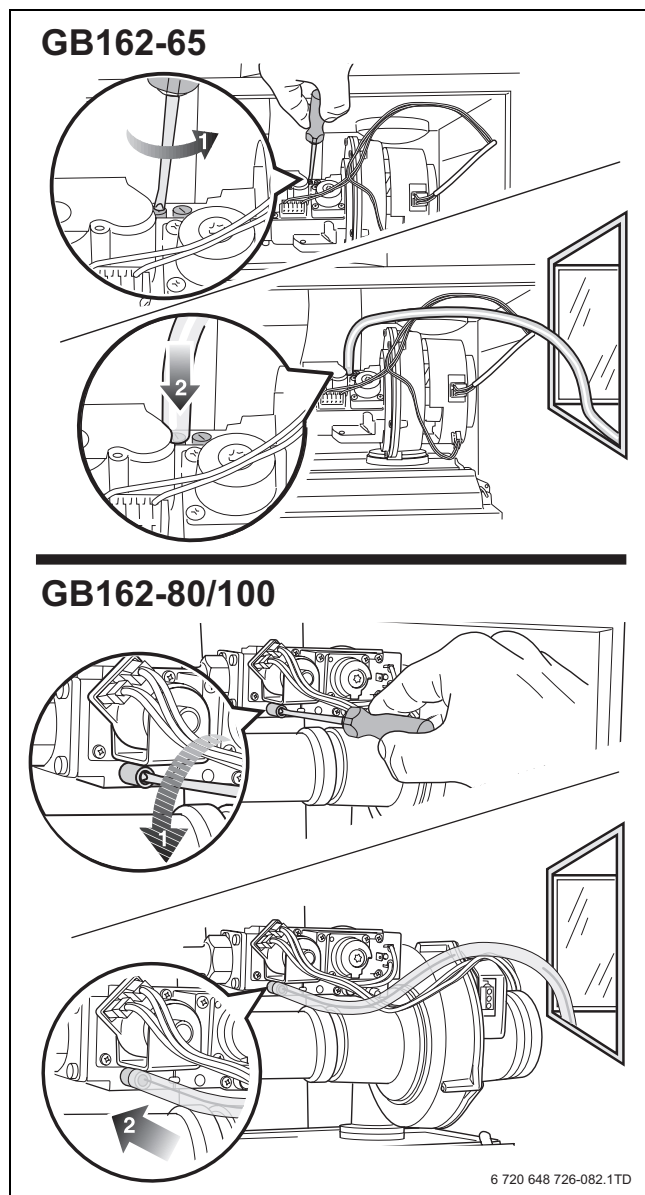

Fig. 87 Checking the gas/air ratio
- Close the gas shut-off valve when no more air is present (fig. 87).
- ▶ Use a connection tube to connect the positive port of the pressure gauge to the testing nipple for burner pressure (→ fig. 87, [2]).